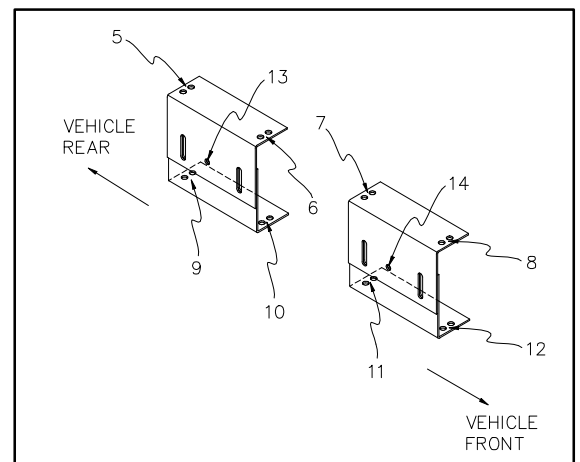

FIGURE 2-6: TOP BRACKET HOLE LOCATIONS
- 3) Refer to **Figure 2-6**. Match and align both top bracket holes 5, 6, 7 and 8 with baseplate assembly holes 5, 6, 7, and 8. Mark bracket assembly mounting holes 9, 10, 11, and 12 onto vehicle step.